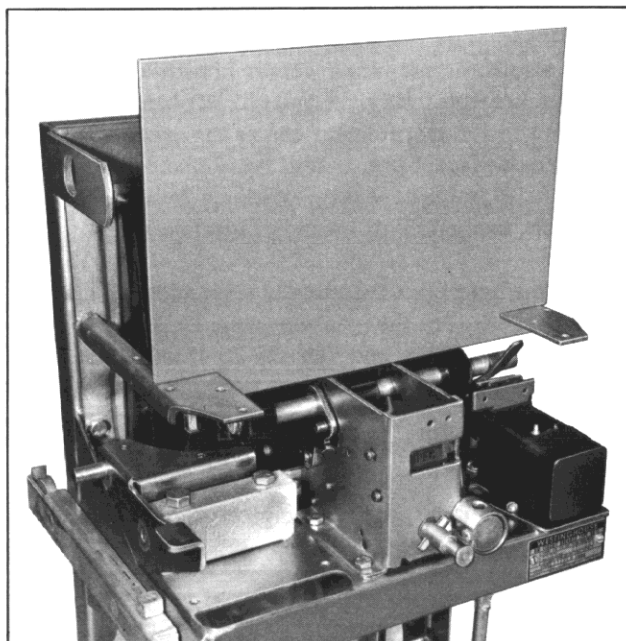

Fig. 17 Mounting of Barrier DB-15
2. Once the brackets are secured the plastic barrier is mounted between them, this barrier acts as a shield between the Amptector and the front of the breaker arc chute, see Fig. 17.